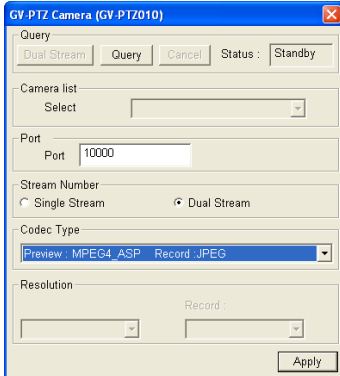

Figure 7-4
- The GV-DVR / NVR will automatically query for the IP camera, and the status will be indicated as “Standby”. If not, modify the HTTP port (Figure 7-3) and streaming port (Figure 7-4) to match those of the IP camera, and click the **Query** button to detect the IP camera again.